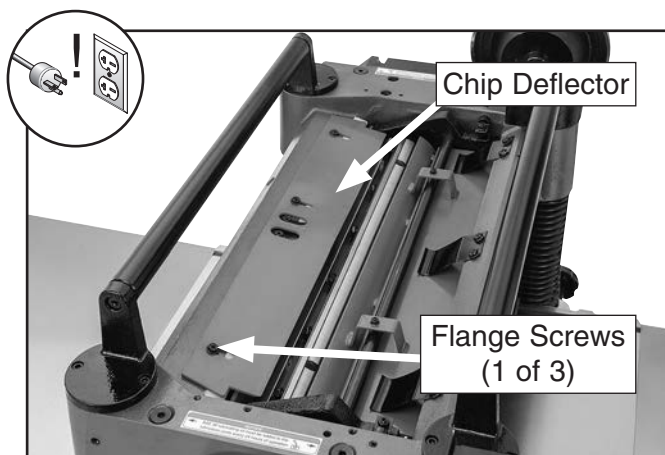

Figure 72. Chip deflector and securing flange bolts.
3. Use cutterhead pulley to rotate cutterhead until a knife/insert reaches closest distance to chip deflector (see **Figure 72**), then measure distance between knife/insert and chip deflector.